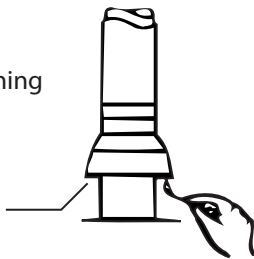

Fig. 5
- Spillage can be detected by introducing smoke into the flue products ahead of the draft hood or by observing if the flame of a match goes out when it is held at the edge of the draft hood relief opening (See Fig. 5).